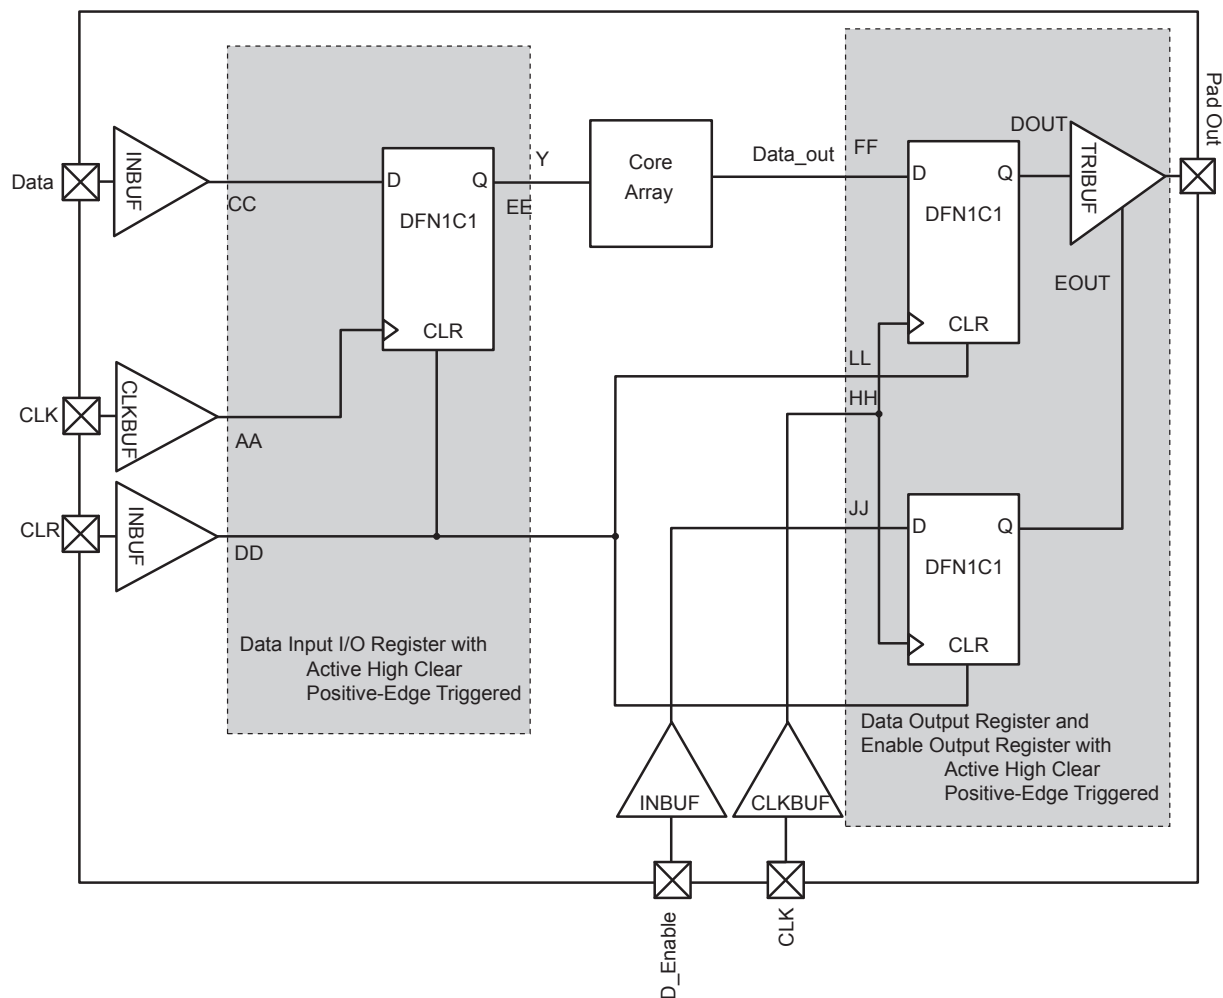

**Figure 2-13 • Timing Model of the Registered I/O Buffers with Asynchronous Clear**
*Note:* \*See Figure 2-13 on page 2-43 for more information.